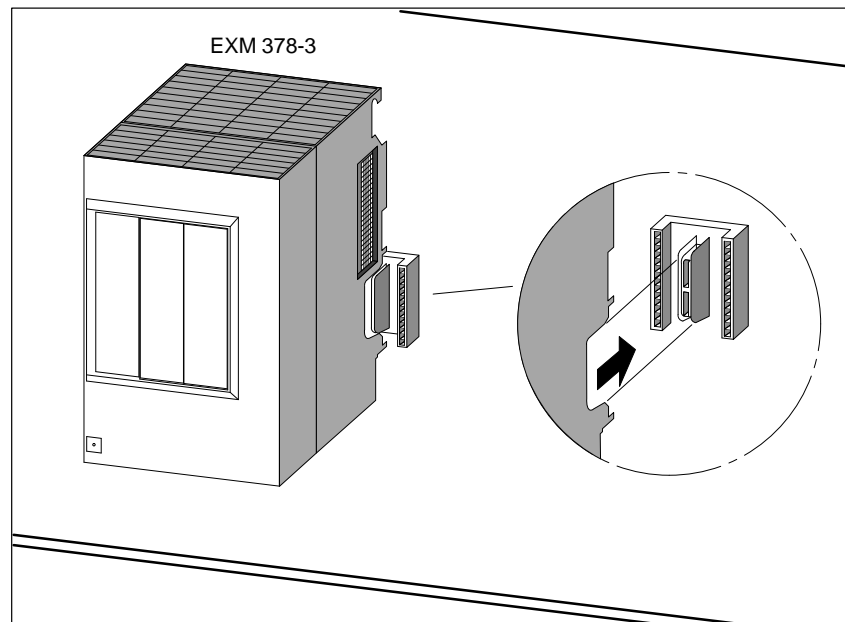

Figure 9-7 Disconnecting the Bus Connector from the Module
11. Disconnect the bus connectors between the module to be replaced and the adjacent modules. Figure 9-7 shows the location of a bus connector on the module.